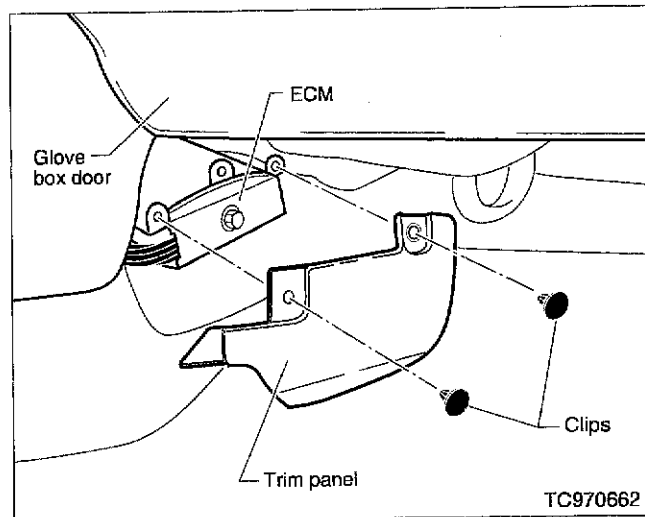

Figure 1
1. Check for wetness and/or mildew on the passenger side carpeting around the ECM area and check the ECM for signs of water damage (see Figure 1 for ECM location).
2. Replace the water damaged ECM with the correct service part number (see Figure 1).